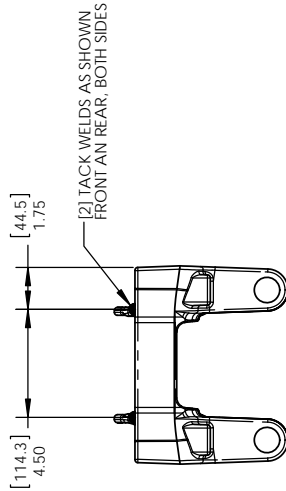

FIGURE 3
- Figure 3 on sheet 1 of the attachment shows the bottom axle adapters.
- 3) TACK WELD (4) PLACES ON BOTH AXLE ADAPTERS AS SHOWN IN FIGURE 3.